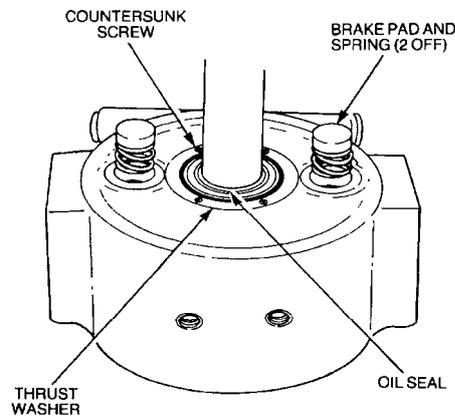

Figure 326 Removing the Brake Pad
- k. Remove the two brake pads and springs (Figure 326).
- w. Remove the countersunk screws securing the nylon thrust washer to the winch gear housing (Figure 326).